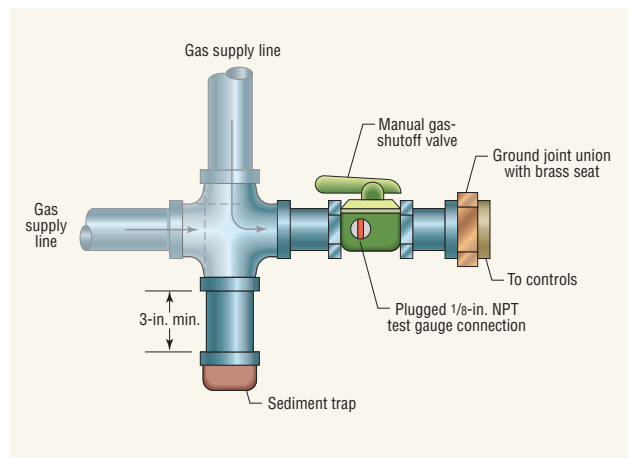

FIGURE 2.2 A ground joint union and manual shutoff valve should be installed in the gas supply line adjacent to the unit.
- A ground joint union and manual shutoff valve should be installed in the gas supply line adjacent to unit. Install a gas line sediment trap immediately prior to unit gas controls (Figure 2.2).